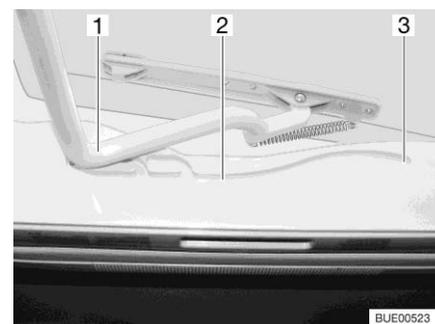

Fig. 65 Guide (Heki skylight)
- Pull the bar (Fig. 65,1) in the guides (Fig. 65,2) to the rearmost position (Fig. 65,3).
- Use both hands to push the bar (Fig. 65,1) slightly upwards.
- Pull the bar in the guides (Fig. 65,2) to the desired position.